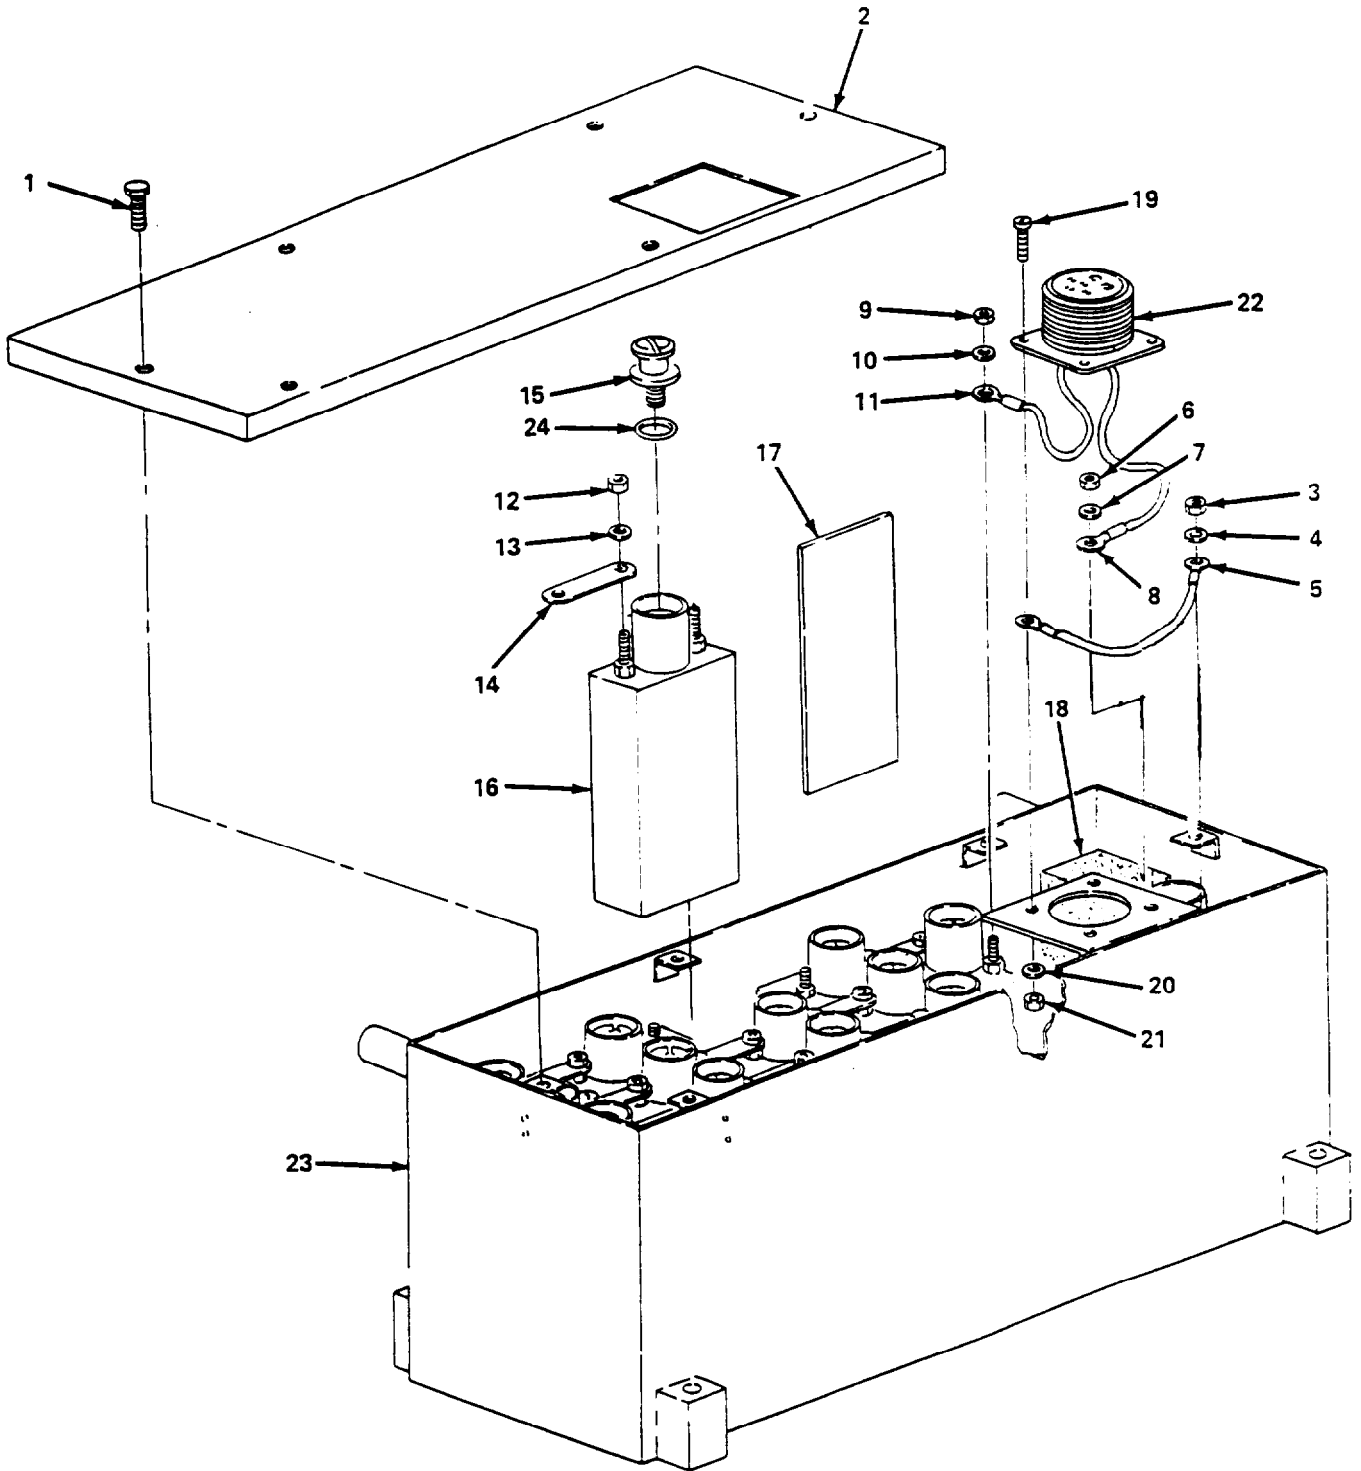

Figure 3-28. Battery BB-708/U Disassembly.
a. Disassembly/Reassembly (fig. 3-28).
- (1) Remove six screws (1) and remove cover. (2).
- (2) Discharge battery (para 3-10).
(1) Discharge battery (para 3-10).
(2) To remove any of the above items, refer to the exploded view (fig. 3-28) and the appropriate sections of paragraph 3-28a.
(3) Upon completion of repair, perform the test procedures contained in paragraph 3-28c, below.